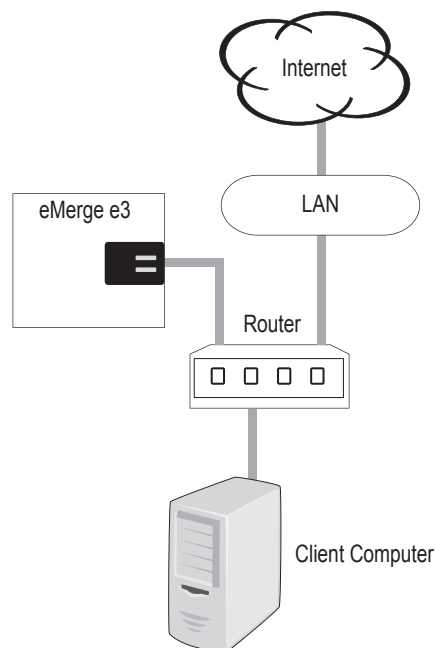

Figure 7.4. Connecting to a LAN
3. Connect to the local area network (LAN) as shown in Figure 7.4.